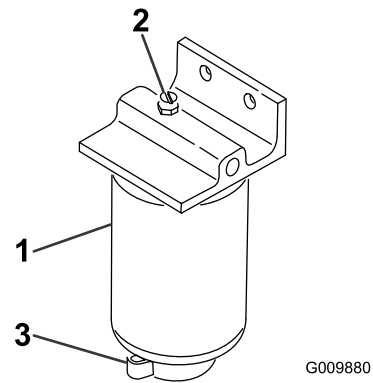

Figure 66
2. Loosen the drain valve on the bottom of the filter canister (Figure 66).
1. Clean the area where the filter canister mounts (Figure 66).